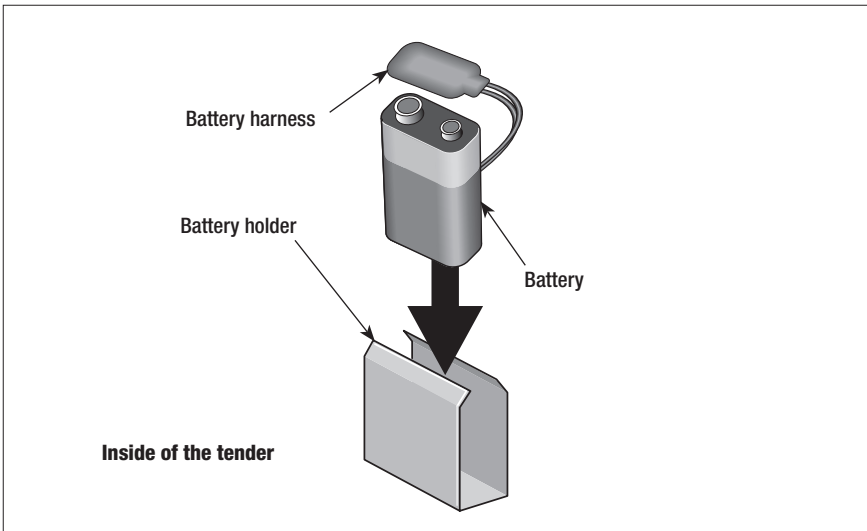

Figure 10. Installing the battery in the tender
**A**lthough the LEGACY RailSounds sound system is powered through the track, we recommend that you install a nine-volt alkaline battery in the tender to prevent the sound system from shutting down during track power interruptions (for example, at a switch or a dirty section of track). Follow these steps and refer to Figure 10 as you install the battery.